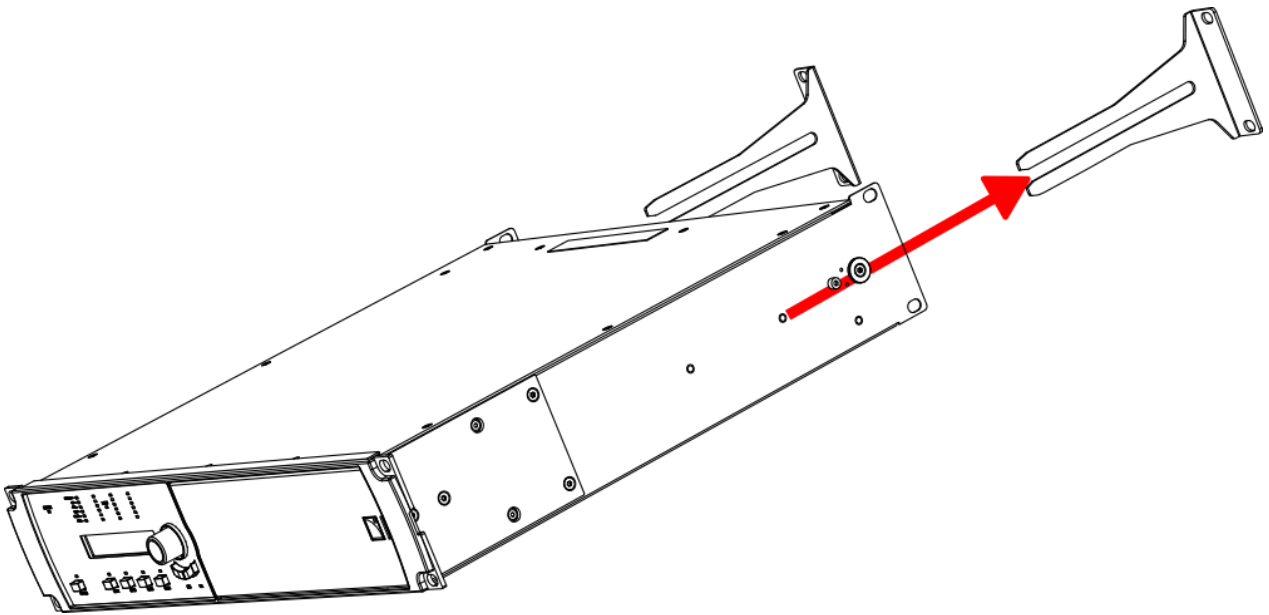

Figure 1: Removing the REAR BRACKETS
1. Remove the two REAR BRACKETS pulling on them, see Figure 1.